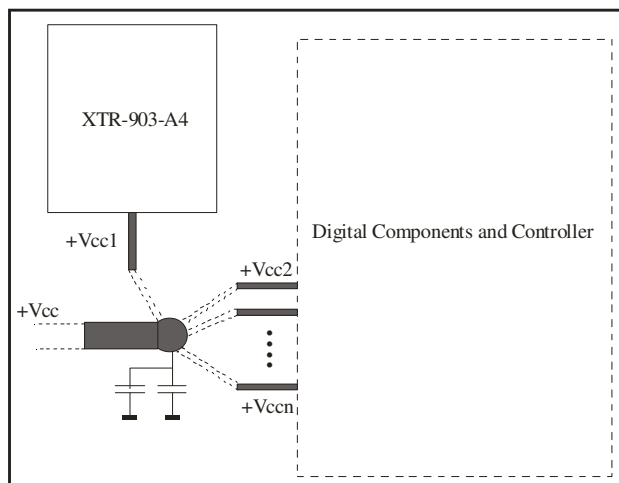

Fig. 11
- 3- Further attention has to be paid to supply lines: it is absolutely advised to avoid twisted or ring tracks and it is better to mount large decoupling capacitors to filter noise on pin 17. In case of digital components mounted on PCB (microprocessor and clock circuits) their supply lines must be decoupled from those of the module and connected each other only in one point properly dimensioned and filtered by decoupling capacitors (see fig.11).